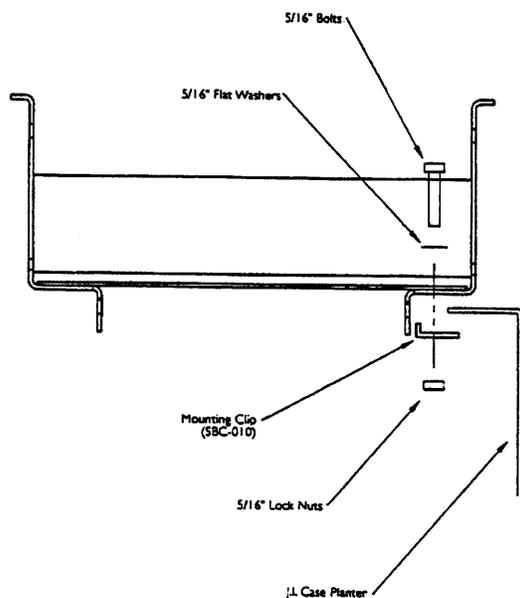

Figure 7
2. Orient SmartBox® cradle as shown in Figure 7.